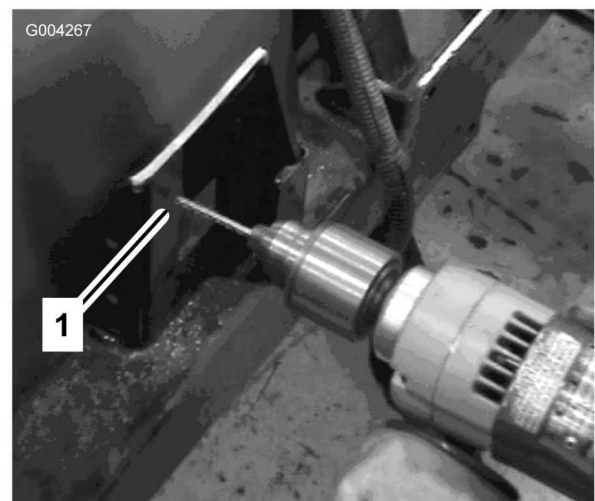

Figure 13
10. Drill **pilot** holes at the marks to verify accuracy (Figure 13).